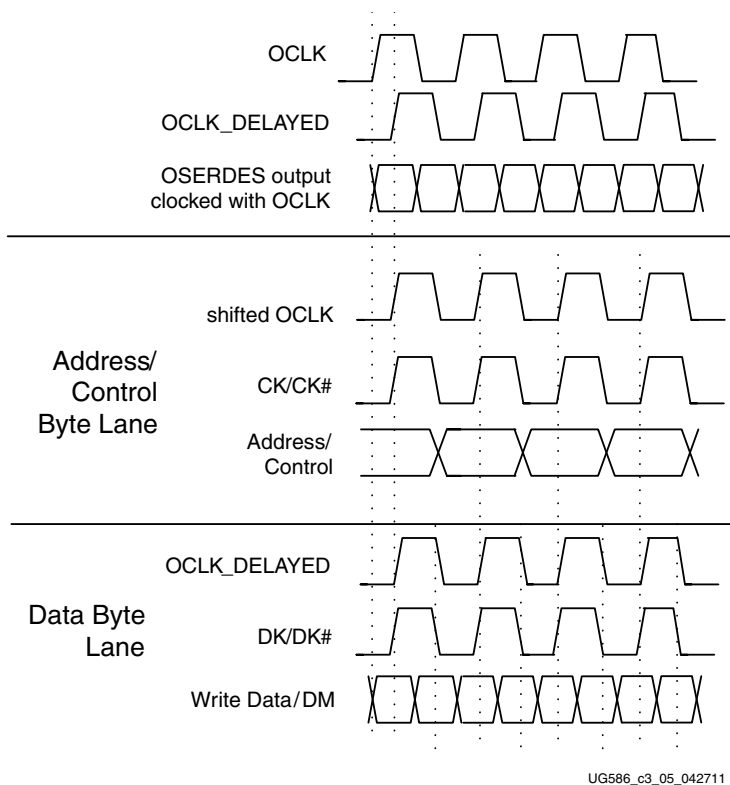

Figure 3-49: Write Path Output Alignment
The PHASER\_OUT\_PHY block provides the clocks required to clock out the outputs to the memory. It provides synchronized clocks for each byte group, to the OUT\_FIFOs and to the OSERDES/ODDR. PHASER\_OUT\_PHY generates the byte clock (OCLK), the divided byte clock (OCLKDIV), and a delayed byte clock (OCLK\_DELAYED) for its associated byte group. The byte clock (OCLK) is the same frequency as the memory interface clock and the divided byte clock (OCLKDIV) is half the frequency of the memory interface clock. The byte clock (OCLK) is used to clock the Write data (DQ), Data Mask (DM), Address, controls, and system clock (CK/CK#) signals to the memory from the OSERDES/ODDR. The PHASER\_OUT\_PHY output, OCLK\_DELAYED, is an adjustable phase-shifted output with respect to the byte clock (OCLK) and is used to generate the write clock (DK/DK#) to the memory. Figure 3-49 shows the alignment of the various clocks and how they are used to generate the necessary signal alignment.